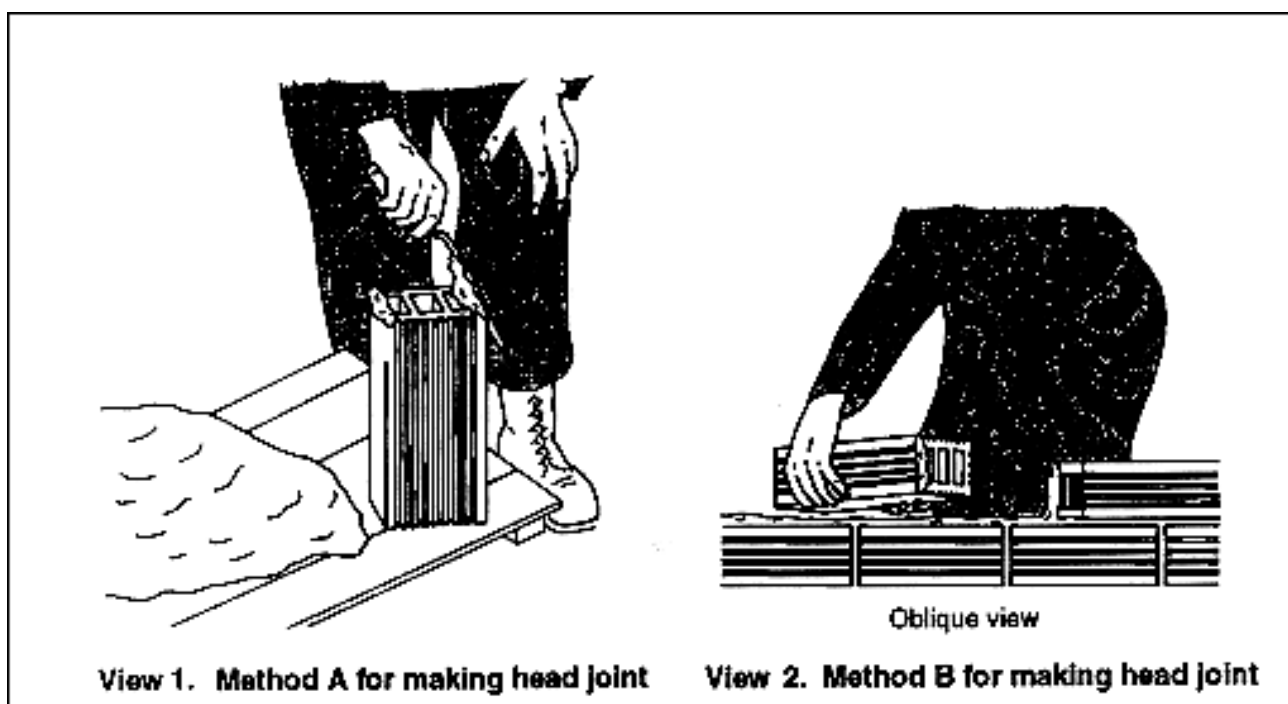

Figure 9-52. Laying side-construction clay
- Method A. Spread as much mortar on both edges of the tile as will adhere (see view 1 of Figure 9-52). Then push the tile into the mortar bed against the tile already laid until it is properly positioned. Cut off the excess mortar.
- Method B. Spread as much mortar as will adhere on the interior shell of the bed tile and on the exterior shell of the unit you are placing (see view 2 or Figure 9-52). Then push the tile into place and cut off the excess mortar.